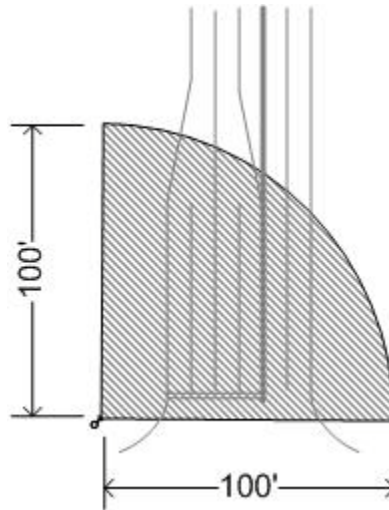

Figure I-4: Corner Radar
- **Corner radar** – SmartSensor Matrix is a corner radar with a panoramic 90° degree 100-foot view. The corner radar vision device detects in traffic in a two-dimensional matrix to provide industry leading stop bar detection performance. The sensor's mounting location should be selected so that all stop bar detection zones on an approach are within 6 to 100-foot radial distance. Figure I.4 presents a top down view of a corner radar mounted to detect the stop bar on a four lane intersection approach. The corner radar device uses its radar vision to automatically determine the location and orientation of lanes and stop bars within its field-of-view. It then detects vehicle presence on a lane-by-lane basis.